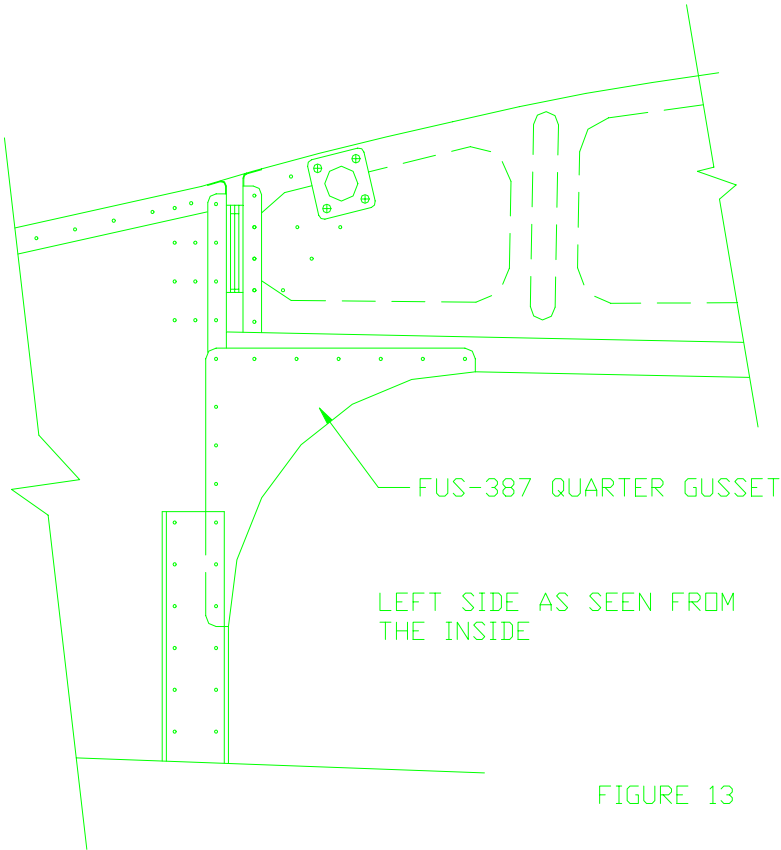

FIGURE 13
49) Position one gusset at the inner upper rear corner of the door opening. Figure 13. Drill to #40 only and trim.